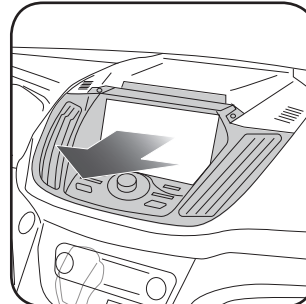

Fig. 1.3
3. Unclip and remove the radio bezel by prying with a plastic panel tool. Unplug the connector from the panel and set it aside. (Fig. 1.3)